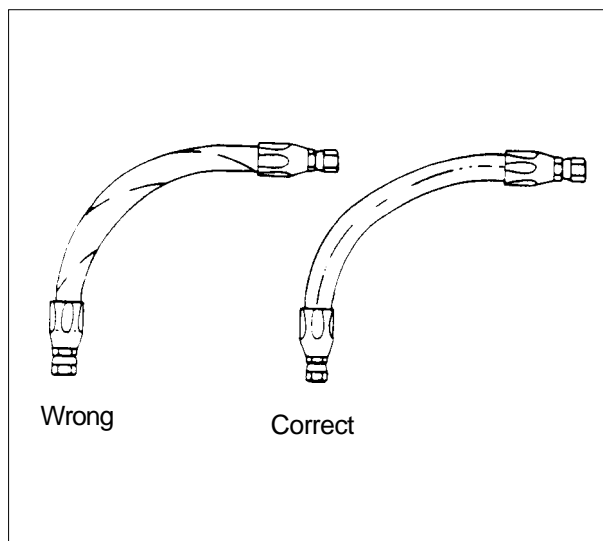

Fig.5
- Do not use or reuse semi-flanges out of shape more than 0.6 mm (0.02 in) in the center (see Fig.5).
- Hoses must not be rolled (see Fig.5) or touching one another or touching other parts, especially if moving.